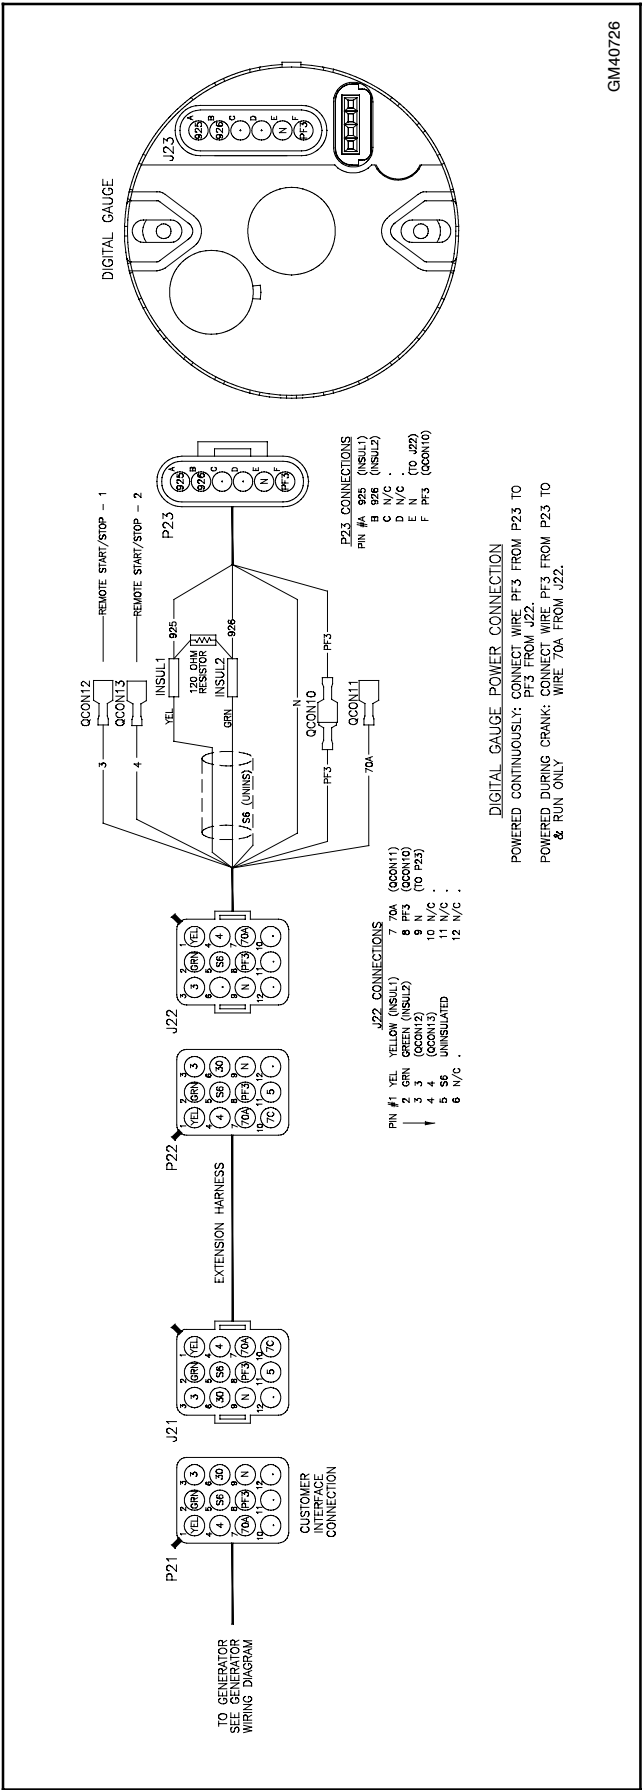

Figure 5 Harness GM48148 Connections
2.3 On harness GM48148, connect either lead PF3 or lead 70A to power the gauge as follows. See Figure 5.
2.4 If a separate remote start/stop switch is used, connect it to leads 3 and 4 of harness GM48148. See Figure 5.